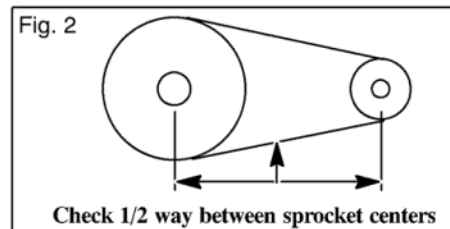

Fig. 2
3. Place a tape measure or ruler next to the drive belt as shown in figure 1 or use the graduations on the belt bracket for reference (1/2 way between sprocket centers on the lower belt span (Fig 2).